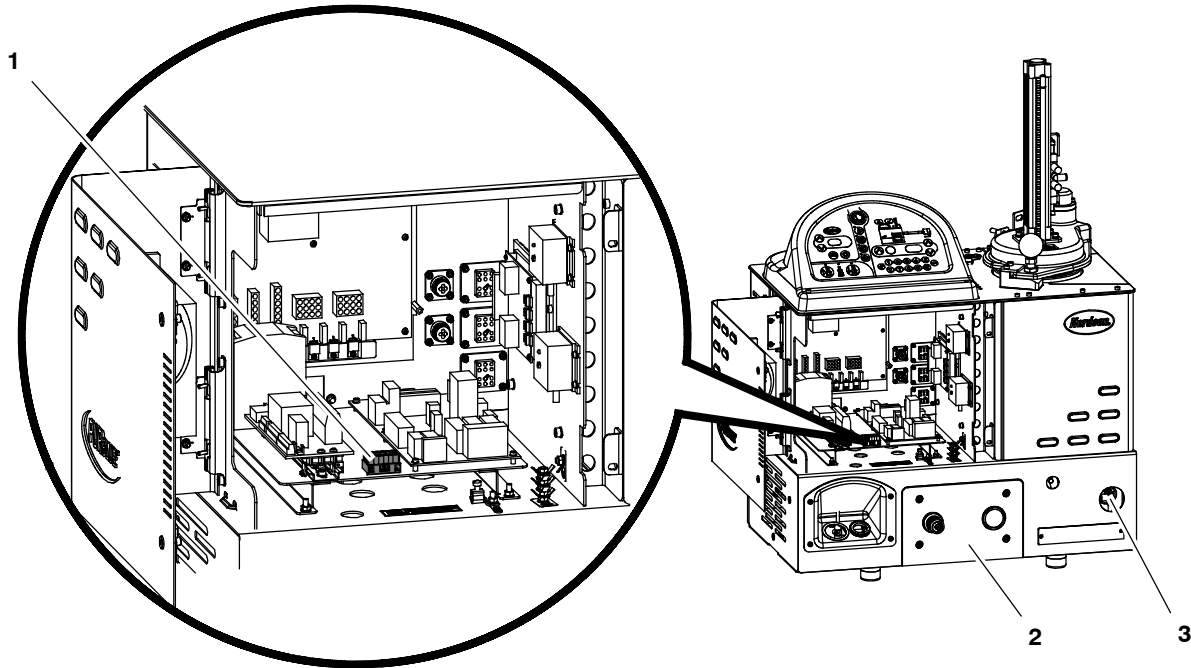

Figure 3-9 Connecting a signal to the pressure control terminal block for the pressure control F option
See Figure 3-9. Connect a customer-supplied 24V control signal to the pressure control option terminal block (1) located inside the electrical enclosure. Terminals are not polarity-sensitive.